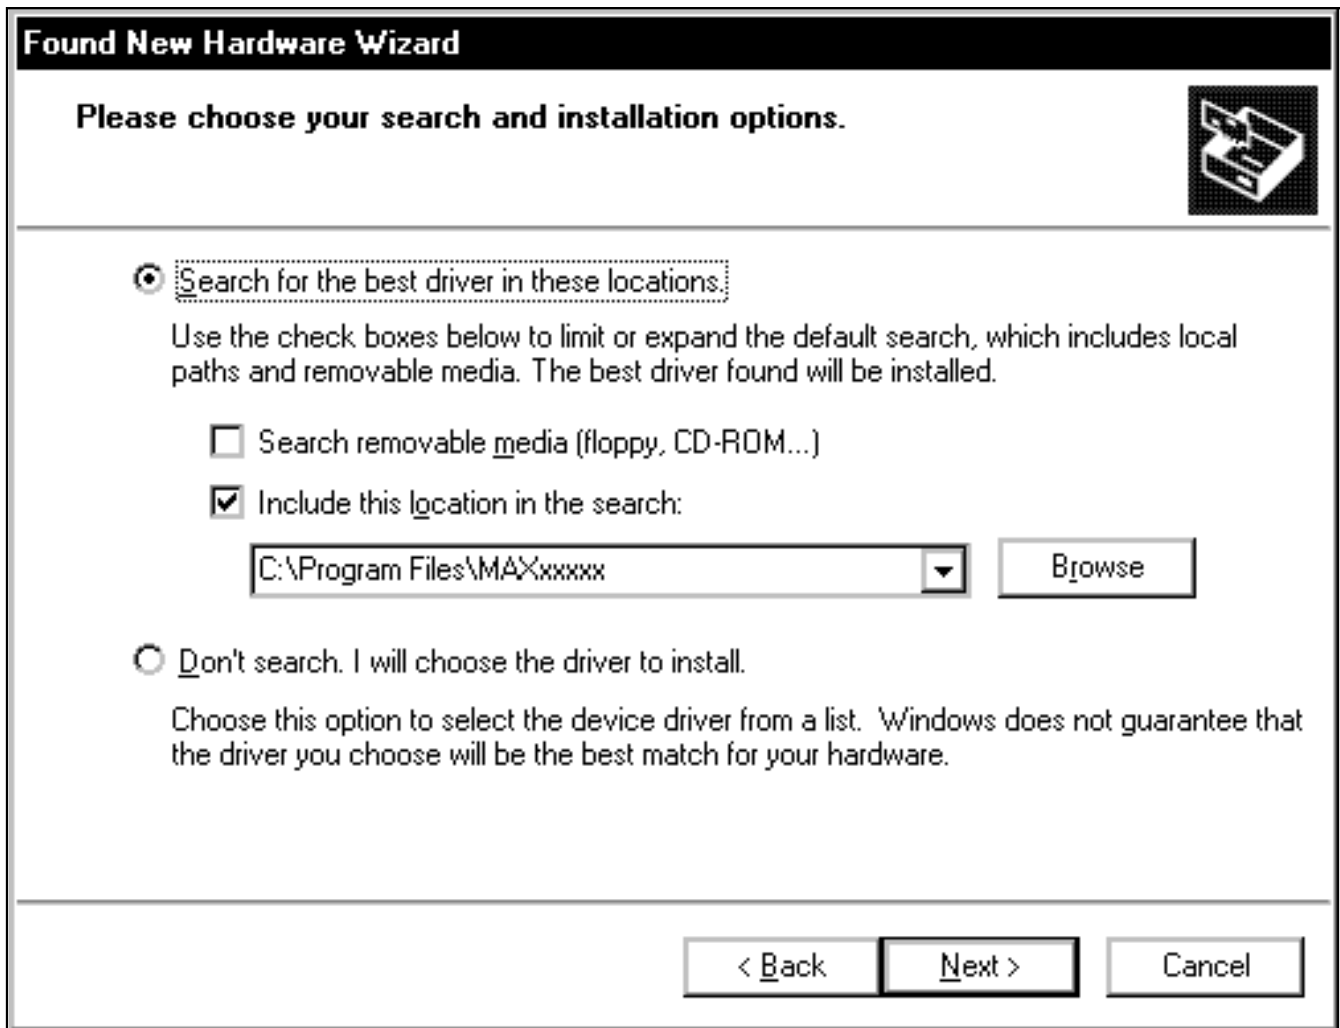

Figure 7. Windows XP: **Found New Hardware Wizard | Search Options** Window
- 7) At the **Found New Hardware Wizard | Search Options** window (Figure 7), choose the **Search for the best driver in these locations** option and check the **Include this location in the search** checkbox. Press the **Browse** button and navigate to the path: **C:\Program Files\MAXxxxxx**. Press the **Next** button when finished.